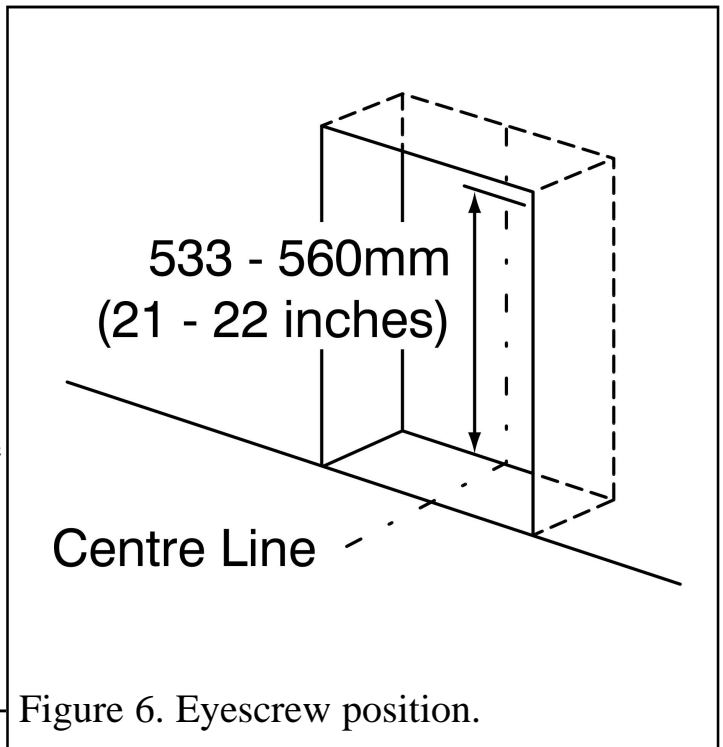

Figure 6. Eyescrew position.
2. Mark the eyescrew position on the centre line at the back of the fireplace opening and at a height of 533-560mm (21 inches - 22 inches) (See figure 6).